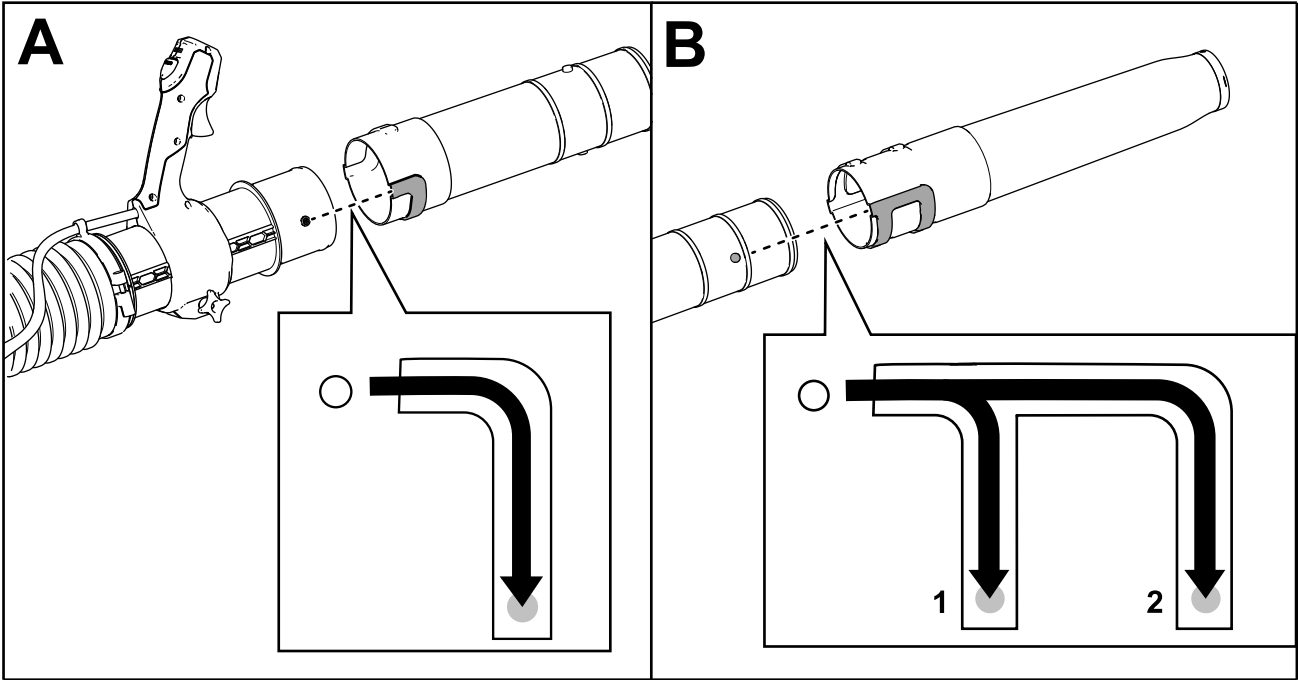

Figure 3
- Slide the channels of the middle blower tube section over the posts on the blower tube cylinder, and rotate the middle section to secure it (A of Figure 3).
- Slide the channels of the nozzle section over the posts on the middle section, and rotate the nozzle to secure it (B of Figure 3).